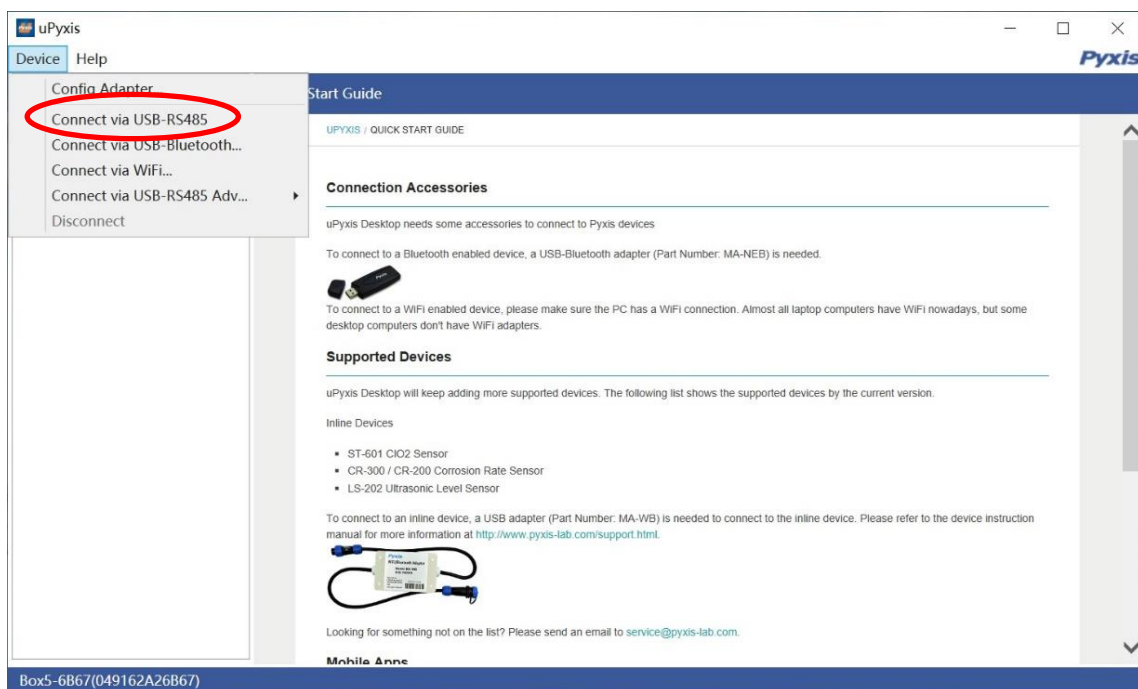

Figure 18 - Connection Options
- 6) Select Connect via USB-RS485 (Figure 18).